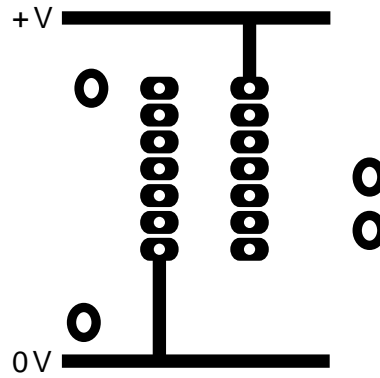

Fig. 7
- (ii) Complete Fig. 7 to show a suitable layout. Tracks may be taken through the centre of the IC, but not between adjacent IC pads.